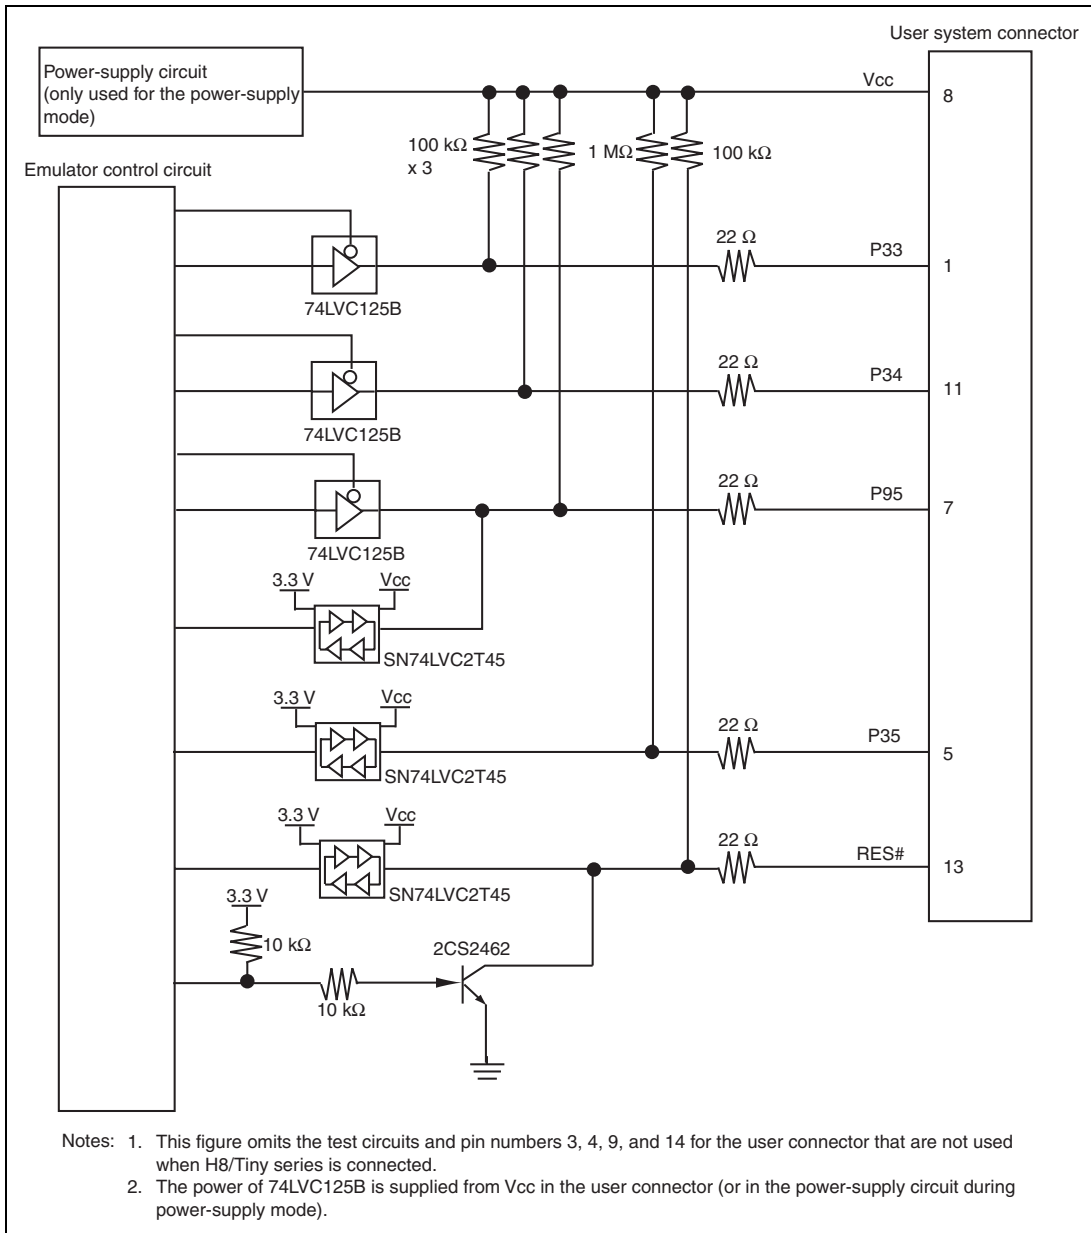

Figure 4.6 Interface Circuit in the E8a Emulator (Reference)
8. Figure 4.6 shows the interface circuit in the E8a emulator. Use this figure as a reference when determining the pull-up resistance value.